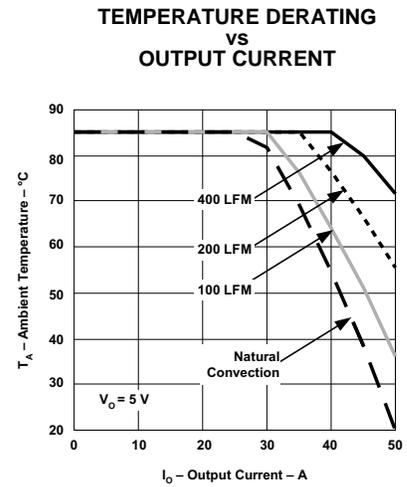
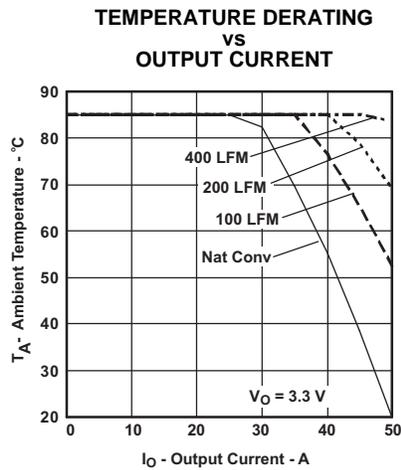
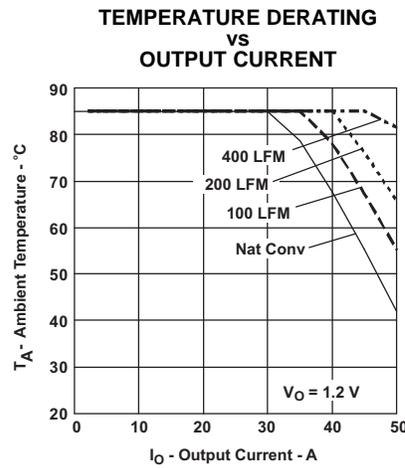

Figure 3.
Figure 4.
Figure 5.
- (2) The temperature derating curves represent the conditions at which internal components are at or below the manufacturer's maximum operating temperatures. Derating limits apply to modules soldered directly to a 4-inch x 4-inch, double-sided PCB with 1-oz. copper. For surface mount packages (AS and AZ suffix), multiple vias (plated through holes) are required to add thermal paths around the power pins. Please refer to the mechanical specification for more information. Applies to Figure 3, Figure 4, and Figure 5.